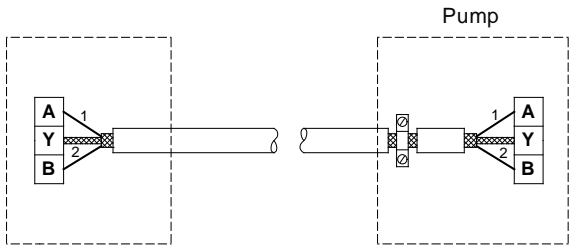

Fig. 7 Connection with shielded 2-core cable
- If a shielded 2-core cable is used in the existing installation, it must be connected as shown in fig. 7.